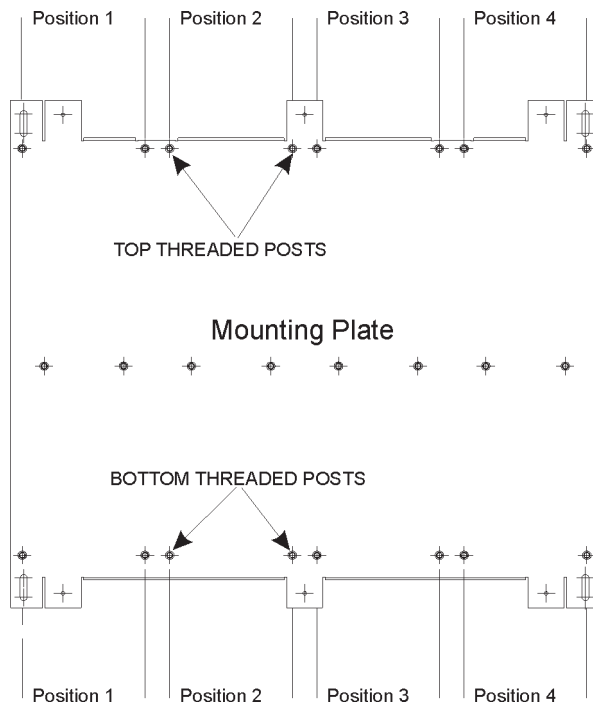

Figure 4
2. Place the cardcage over the four screws on the Mounting Plate and slide it down or towards you to rest on the four screws. (Refer to Figure 4.) When the cardcage is in the correct position it will be flush with the top, bottom, and left side of the Mounting Plate.